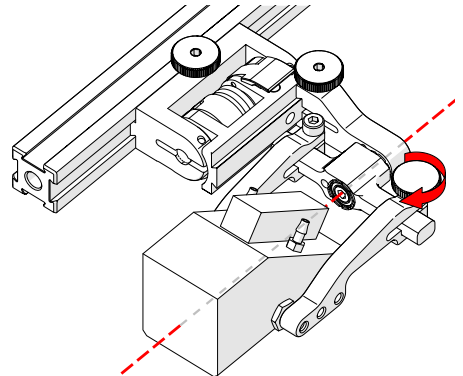

Fig. 49 - Pinch wedge with arm
9. Tighten the probe holder arm adjustment knob (Fig. 49).